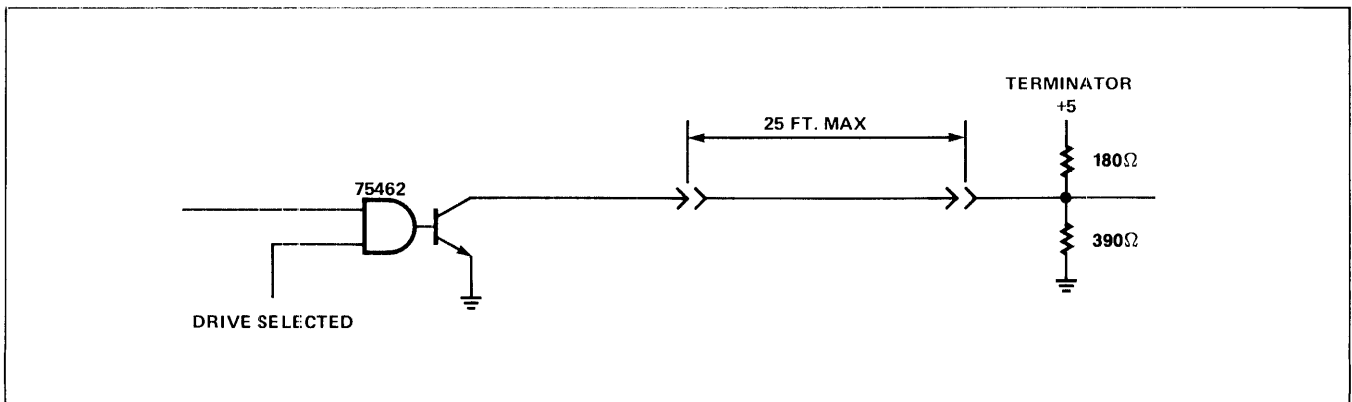

Figure 4-13. Single End Line Driver
10. - *READY*. This low-active signal from the drive indicates that the drive is up to speed and ready to read, write, or seek. This line is driven by a 75462 open collector driver, as shown in Figure 4-13. The DC characteristics are listed in Table 4-10. This line should be terminated at the controller end.
11. - *INDEX*. This low-active signal occurs once per revolution and indicates the beginning of a track. This line is driven by a 75462 open collector driver, as shown in Figure 4-13. The DC characteristics are listed in Table 4-10. This line must be terminated at the controller end.
12. - *SECTOR MARK*. This low-active signal indicates the beginning of a sector. This line is driven by a 75462 open collector driver, as shown in Figure 4-13. The DC characteristics are listed in Table 4-10. This line must be terminated at the controller end.